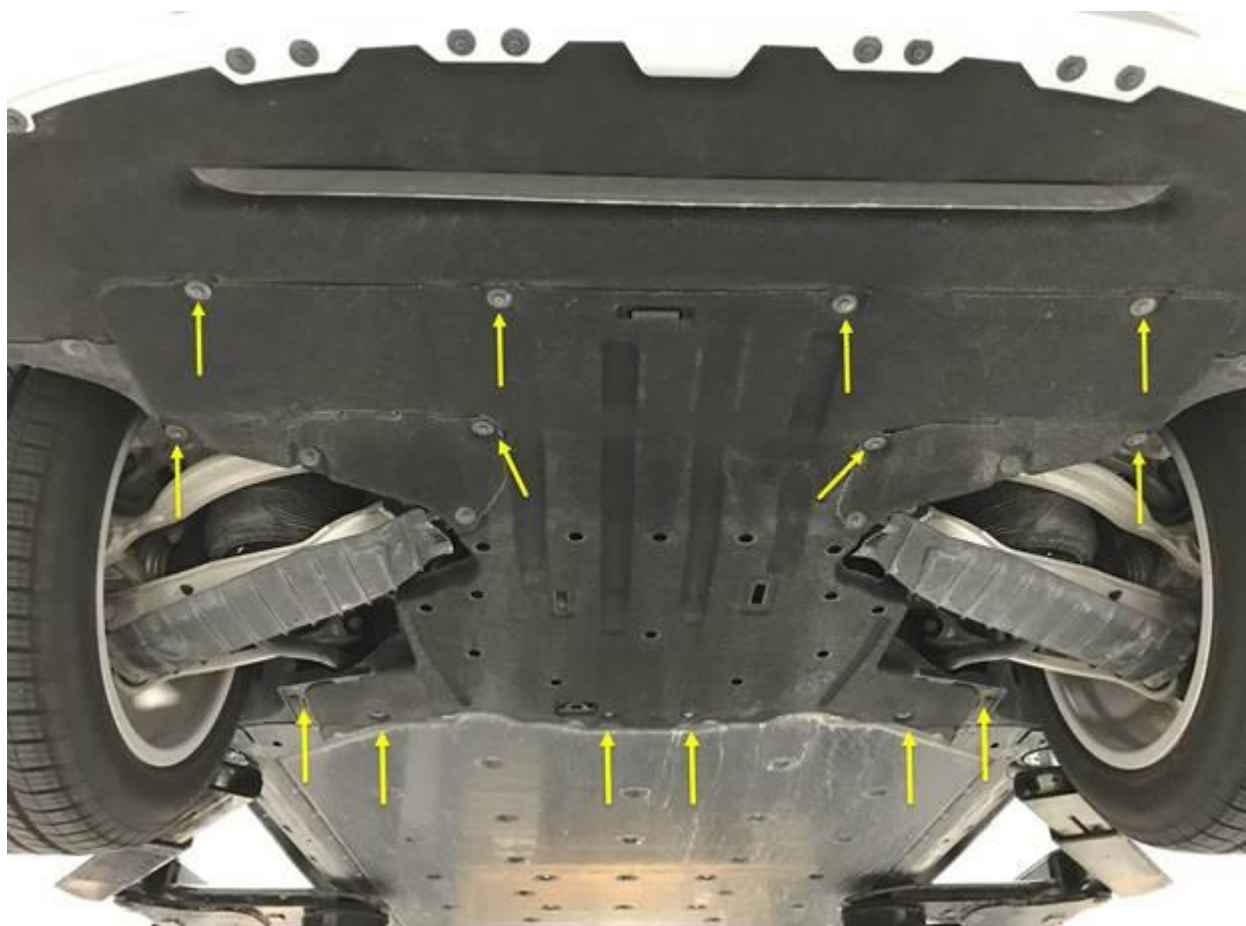

Figure 1. Remove the lower shield.
1. Remove the lower under shield from the rear of the vehicle and gain access to the rear electric drive harness for inspection (Figure 1).